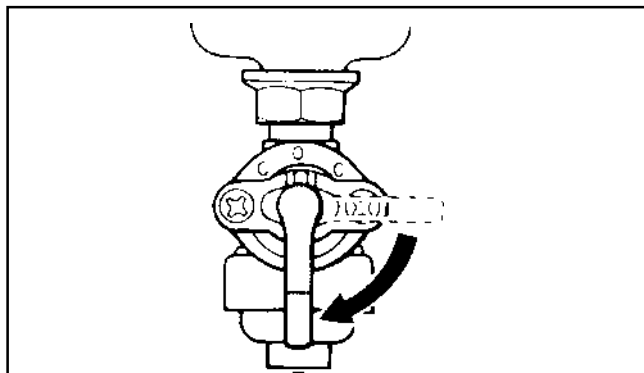

Figure 6. “On” Position of Fuel Shut-Off Valve.
1. Turn fuel shut-off valve to “on” position. See Figure 6.